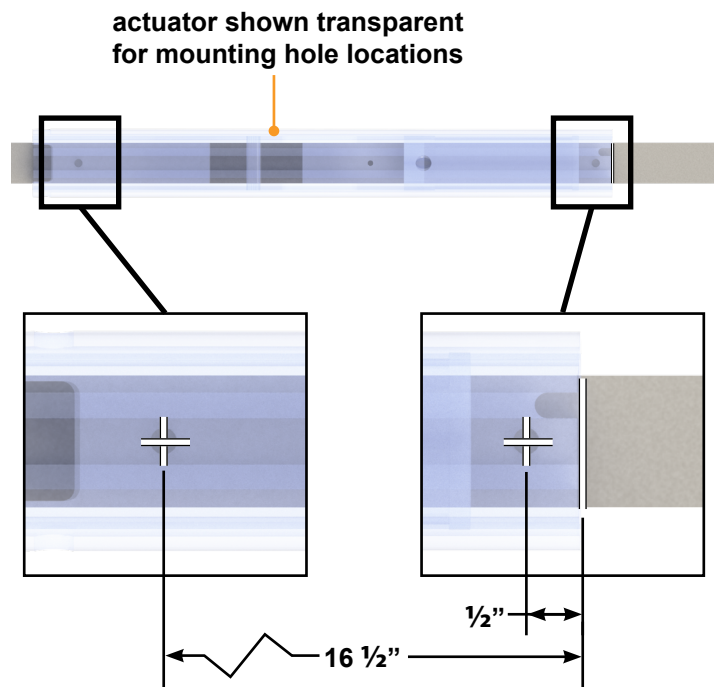

Fig.7
A. Measure back $\frac{1}{2}$ " and $16\frac{1}{2}$ " and mark (Fig.7).
D. Use a drill with a $\frac{3}{8}$ " bit to drill both holes in the center of the frame at the previously marked locations (step A) (Fig.7).
6. Install the starboard actuator on top of the fence railing where the dry-fit markings were made (step 4) (Fig.7).